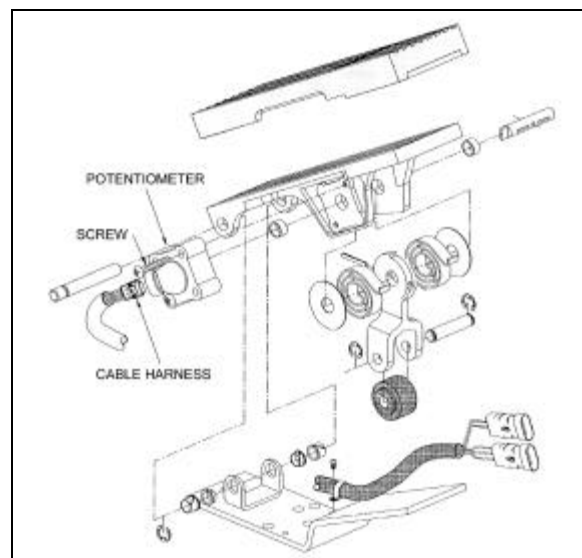

FIGURE 14: ELECTRONIC FOOT PEDAL ASSEMBLY
3. Discard potentiometer (Fig. 14).
4. Position new potentiometer. Press potentiometer onto the potentiometer shaft, matching cutouts in shaft to drive tangs of potentiometer. Apply hand pressure until potentiometer has bottomed out in housing. Reinstall screws (Fig. 14) and tighten just enough to secure potentiometer lightly. Tighten screws to 10 - 20 lbf-in (1.5 - .2 Nm).